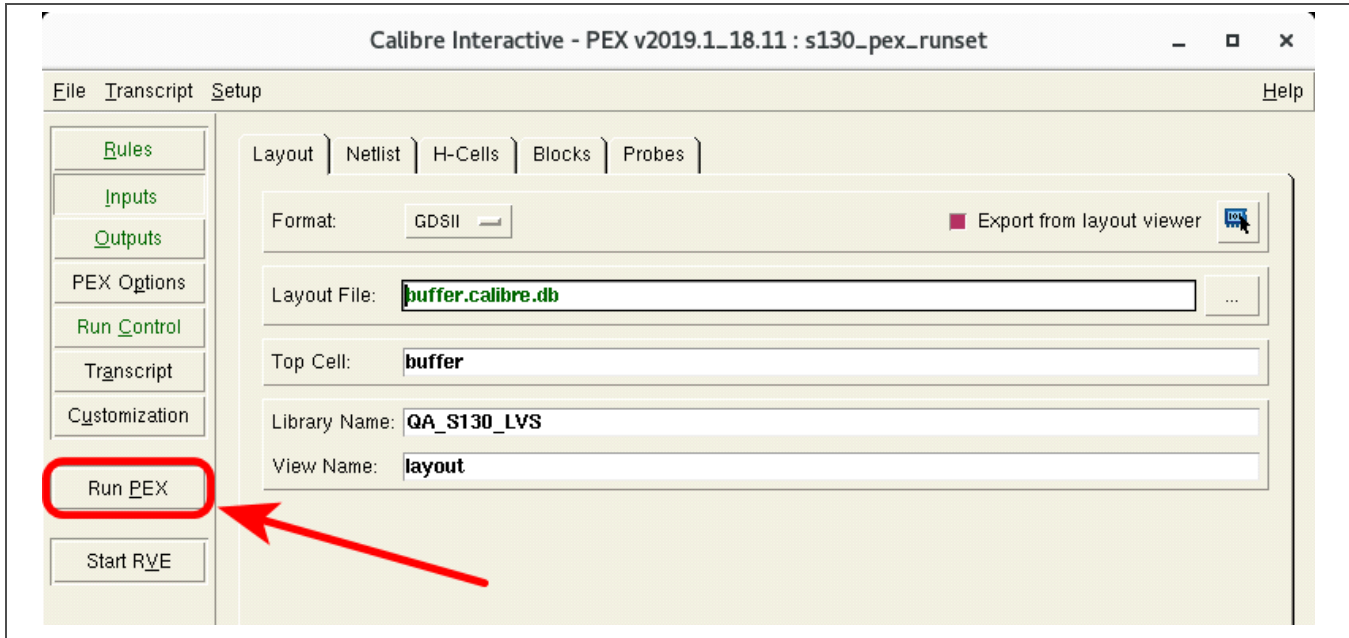

Figure 6-3. Calibre Run PEX Command
3. Click on the **Run PEX** button in the Calibre user interface, as shown in *Figure 6-3* on page 93, to begin the run.